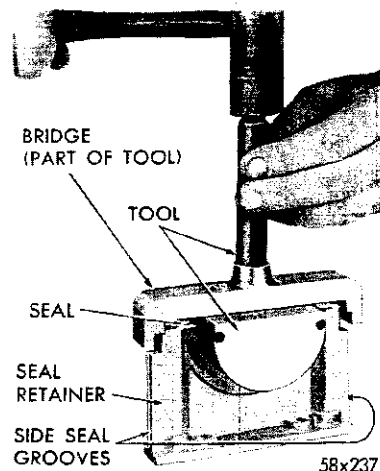
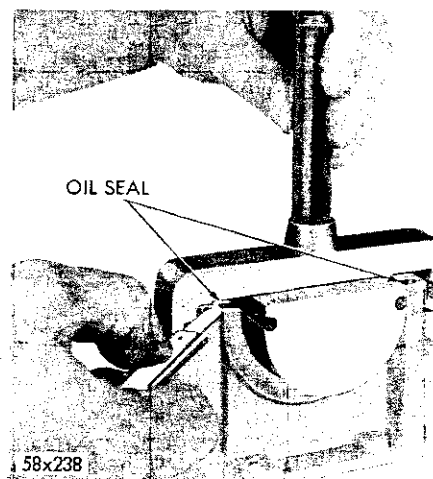

Fig. 49—Installing Rear Main Bearing Lower Oil Seal
Fig. 50—Trimming Rear Main Bearing Lower Oil Seal
(1) Install a new seal in the seal retainer so that the ends protrude (Fig. 49).
(2) Install the bridge on tool and tap the seal down into position with Tool C-3625 until the tool is seated.
(3) Trim off that portion of the seal that protrudes above the cap (Fig. 50.)